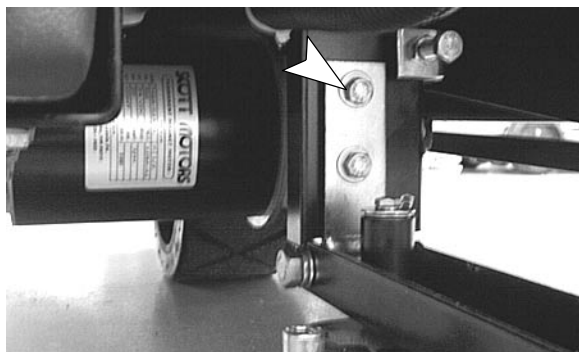

Fig. 27
- c. Level the Squeegee *as good as possible* by adjusting the squeegee mount bracket up or down. Once level, snug down the top screw, **DO NOT TIGHTEN**. Two 1/2" Wrenches required (Figure 27).